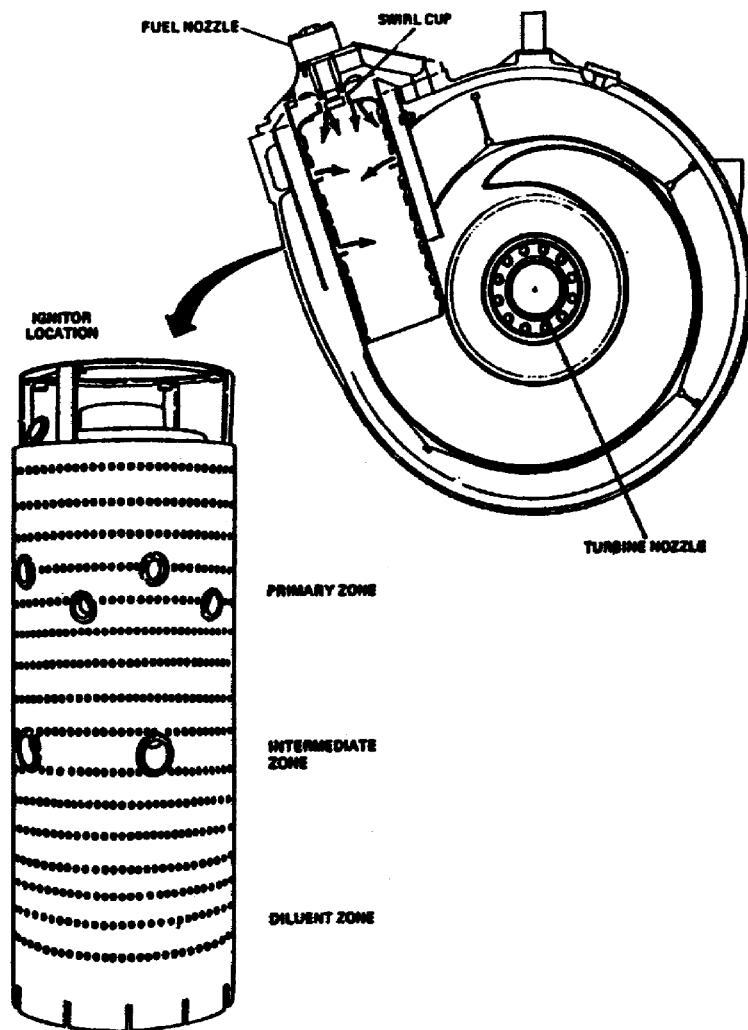

Figure 1-22. Combustion Chamber.
(10) Combustion Chamber. The combustion chamber, Figure 1-22, is designed to burn a mixture of fuel and air, and to deliver the resulting gases to the turbine at a temperature that will not exceed the allowable limits at the turbine inlet. The chamber, within a very limited space, must add sufficient heat energy to the gases passing through the engine. This accelerates their mass enough to produce the desired power for the turbine section. Combustion chambers are built in a number of different designs. The construction is such that less than one-third of the total volume of air entering the chamber is permitted to mix with the fuel. The remaining air is used downstream to cool the combustor surfaces, and to mix with and cool the burned gases before they enter the turbines.